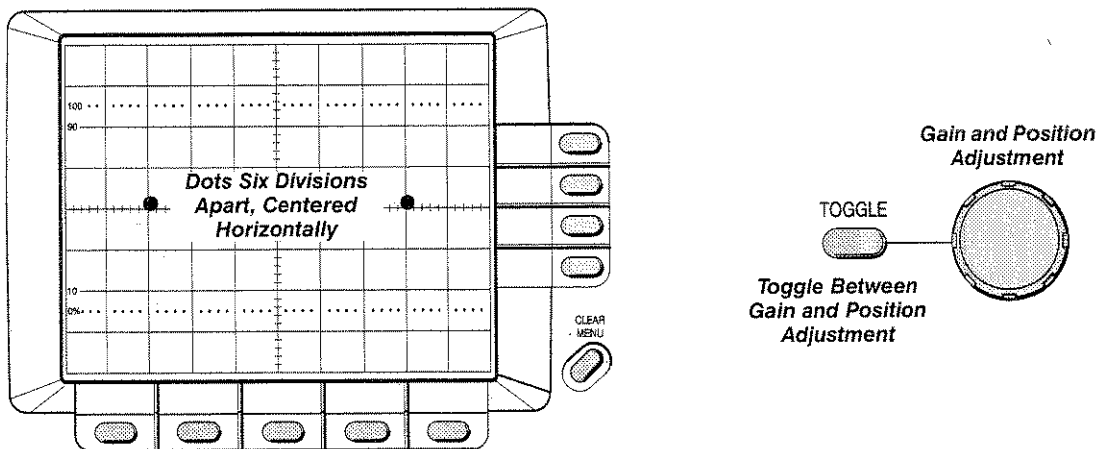

Figure 7-9: Vertical Adjustments
12. Use a combination of the **TOGGLE** button and the General Purpose Knob to position the dots 6 divisions apart, centered horizontally (see Figure 7-9).